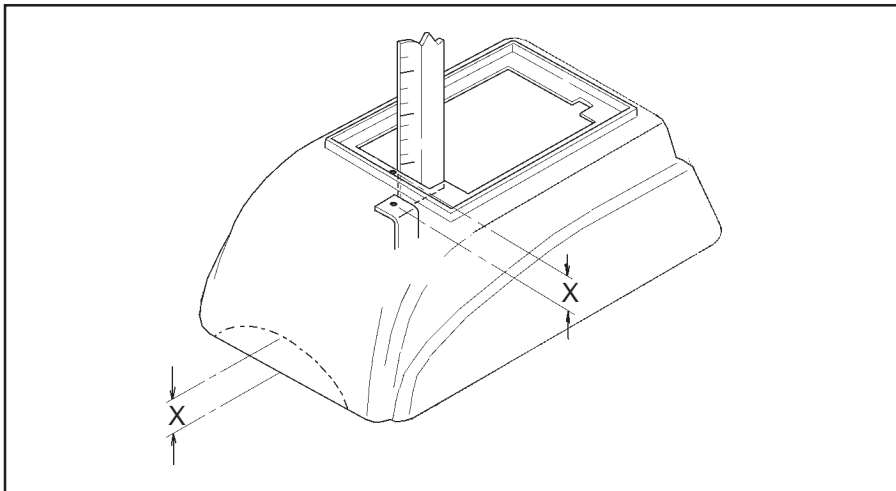

Figure 10
STEP 27. Place tower over shifter mechanism until the bottom edge of the tower touches the floor. Hold the tower level to the shifter with the bottom of the tower touching the highest surface on the floor it will come into contact with, (See **figure 10**). Use a ruler to measure the distance X from the underside of the tower to the tower mounting brackets on the shifter mechanism.
STEP 28. Set a pair of dividers at the distance X, measured in **step 27**. Hold the tower level to the shifter mechanism with the bottom of the tower touching the highest surface on the floor it will come into contact with. Holding the tower in position, place one leg of the divider against the floor while the other touches the tower, (See **figure 10**). Using the dividers, scribe a line around the tower that follows the contour of the floorboard. Remove the tower and trim at the scribe line using a keyhole saw or a saber saw. (The material is too thick to cut